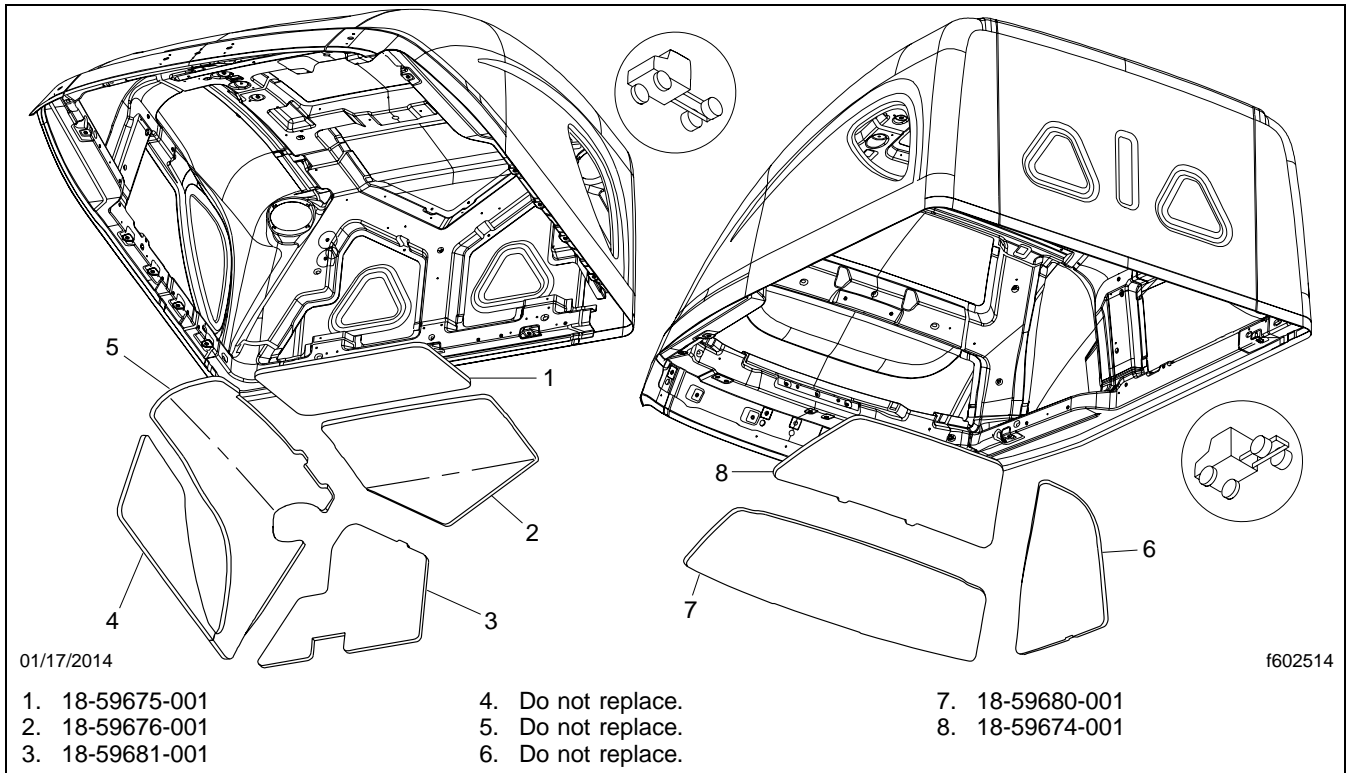

Fig. 10, 72-Inch Raised Roof Cap Insulation Inserts
- See **Fig. 10** for 72-inch raised roof cap insulation inserts.